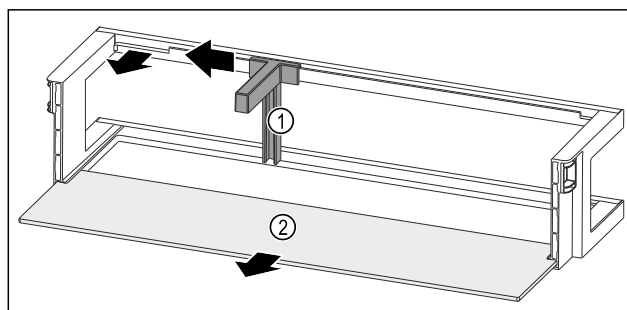

Fig. 125 Door rack with bottle holder and shelf
- ▶ Slide the bottle holder Fig. 125 (1) to the side as far as the recess.
- ▶ Remove the bottle holder Fig. 125 (1).
- ▶ Remove the shelf Fig. 125 (2).